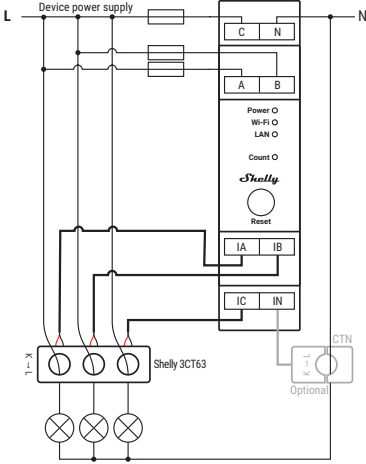

Fig. 2: Single-phase setup wiring diagram
For a single-phase setup, connect the Live wire (L) to all phase input terminals (A, B, and C) as shown in Fig. 2.